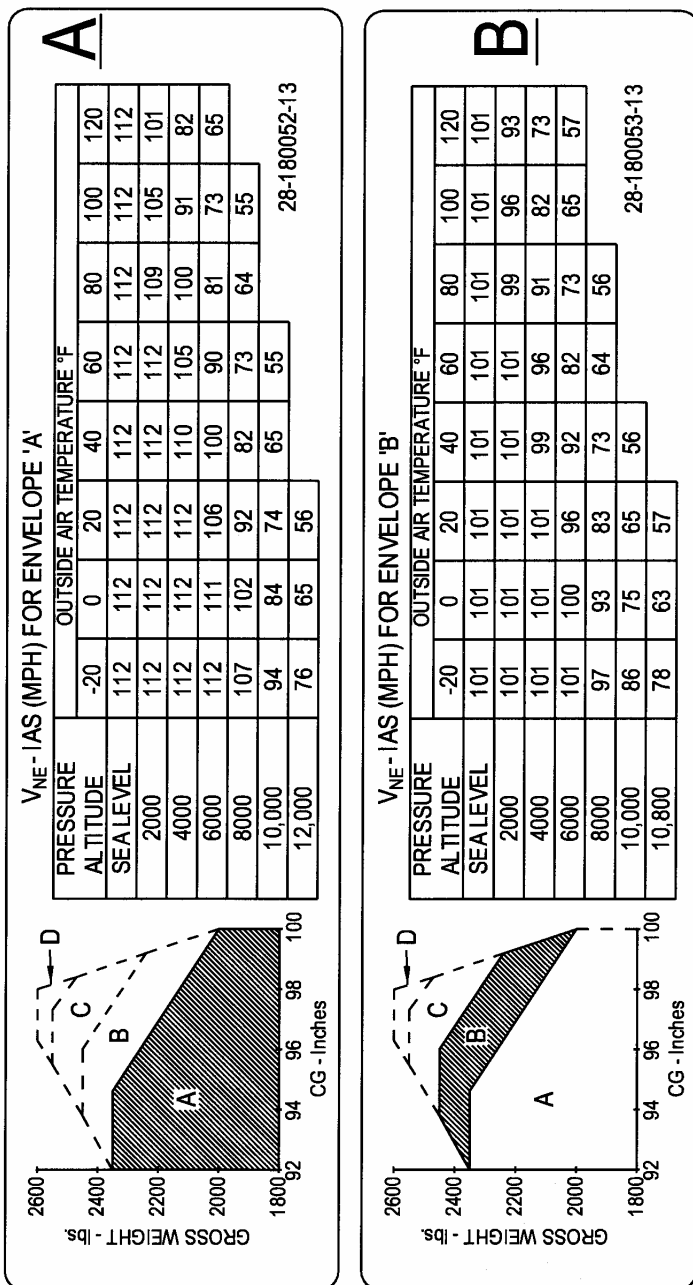

Figure 2-3. V_{NE} Placards – Envelope A & B (w/120°F)
- (2) V_{NE} placards shown in Figure 2-3 and Figure 2-4 are used on F-28F helicopters serial number 820 and subsequent. F-28F helicopters serial numbers 819 and prior may also use these placards.